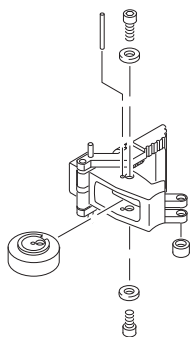

Figure 4
5. Remove both idle rolls from the swing arms by removing the pins and the socket head cap screws and washers on the top and bottom of the swing arms. Save the pins and hardware for later reuse. (See Figure 4).